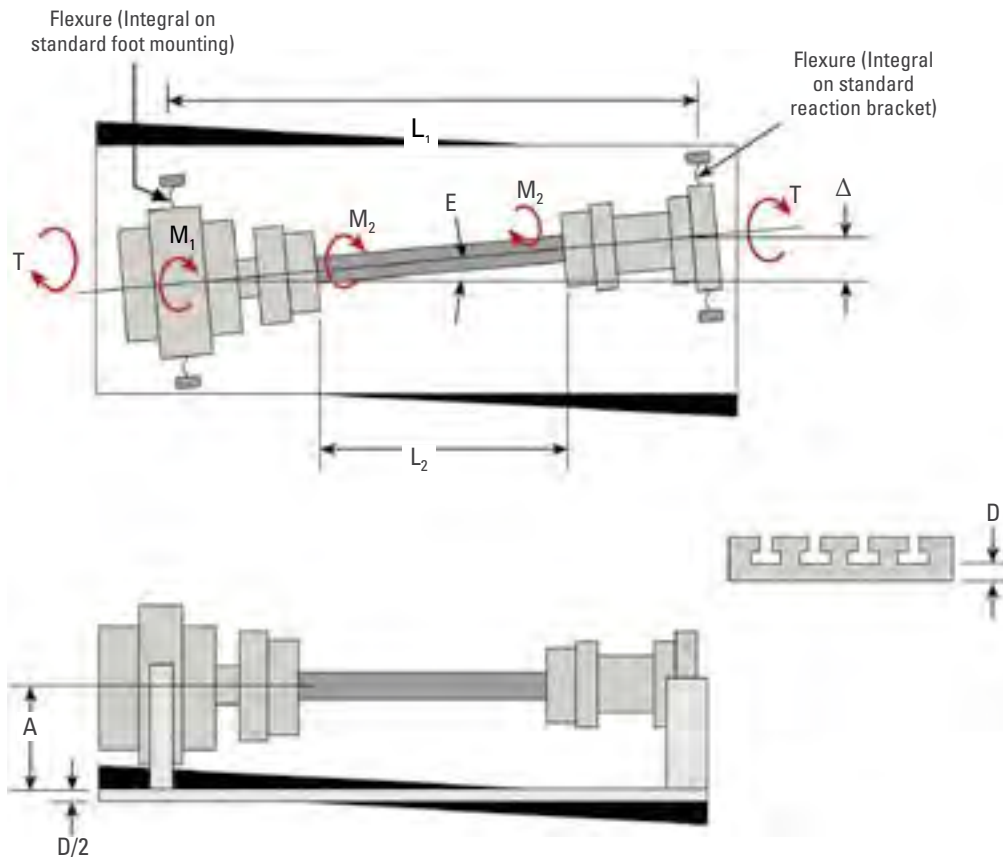

Figure 4. Forces Resulting from Base Plate Twisting (*Integral Flexure*)
**Figure 4** shows an example of a test setup in which flexures are provided on both the optional actuator foot mounting and the optional reaction bracket. Parameters *not* previously defined in Case A are defined below.